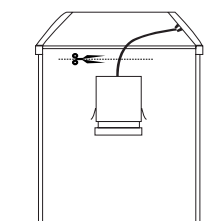

Figure 3
2. Cut Medium-base socket adapter (Figure 3)